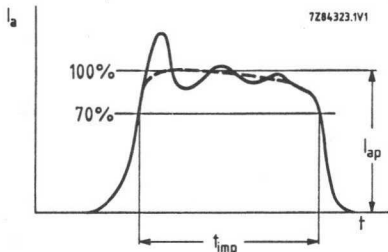

Fig. 1 Current pulse.
- $t_{imp}$  The pulse duration  $t_{imp}$  is defined as the time interval between the two points on the current pulse at which the current is 70% of the smooth peak current (see Fig.1).